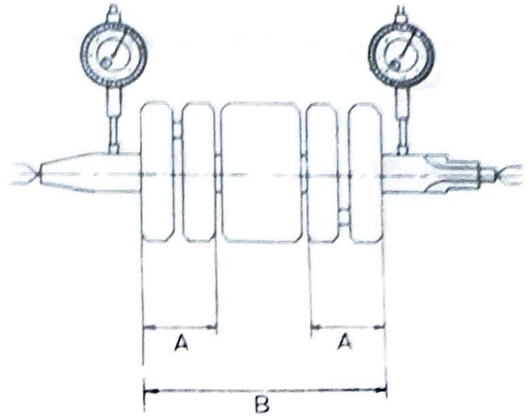

Fig. 4-17-24
3) Overall Length and Runout of the Crankshaft (Fig. 4-17-24)